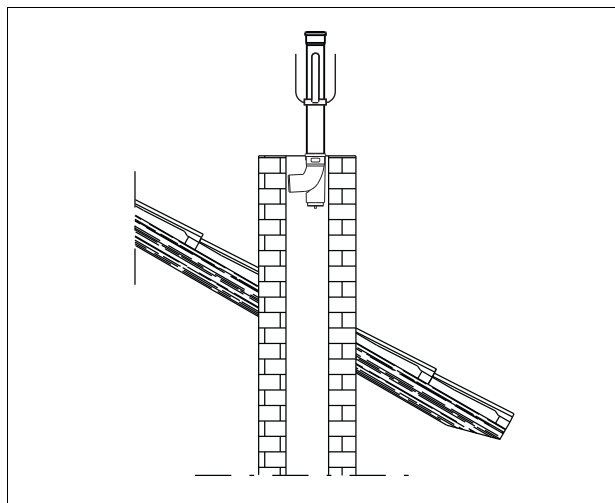

Fig. 10 Insert flue gas pipe into the chimney
- Insert flue gas pipe from above into the chimney (Fig. 10), until the pipe sleeve is a little above the upper edge of the chimney.